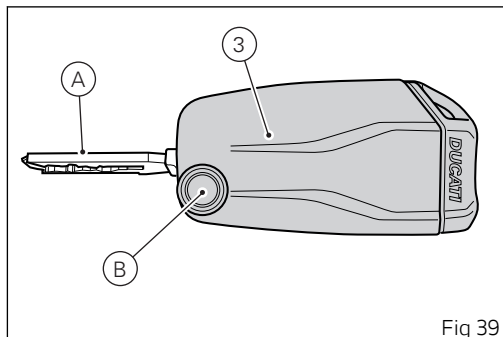

Fig 39
Key-On can be performed by pressing button (6) on the handlebar and with the presence of the active key (3, Fig 39).
Key-Off can be performed by pressing the button (6) on the handlebar. It can also be performed without the key (3, Fig 39) only if motorcycle speed is equal to zero.
Key-On can be performed by pressing button (7) on the Hands free lock (1, Fig 32) and with the presence of the active key (3, Fig 39).